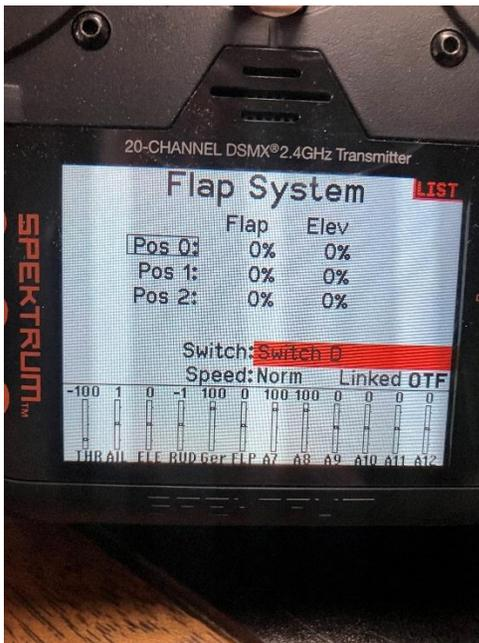

Figure 15.0 Flap System screen
it. **Switch D** is a 3-position switch, and each position is labeled Pos 0:, Pos 1:, Pos 2: . *Figure 15.0* shows the **Flap System** screen. You will see two columns one labeled **Flap**, the other **Elev**. The **Elev** field allows you to mix in some elevator movement when the flap **SwitchD** is used to raise or lower flaps. You will need to do some flight testing to see if you want to mix in some **Elev** to compensate for the extra lift you get with the flaps deployed. When you drop the flaps, the plane (real ones too) tends to move upward due to the extra lift created by lowering the flaps. In a real plane you would immediately re-trim the pitch to keep the plane on a descent. However, re-trimming your RC takes time. Instead you can automatically mix in some down elevator to reduce the need to re-trim on final approach. I haven't found that I really need to mix in any trim. Just by reducing power, the plane will drop its nose anyway. Properly setting up each control surfaces and establishing the correct center of gravity (CG) can greatly reduce the need for excessive trim adjustments with your aircraft. This is something you will need to focus on during plane setup.